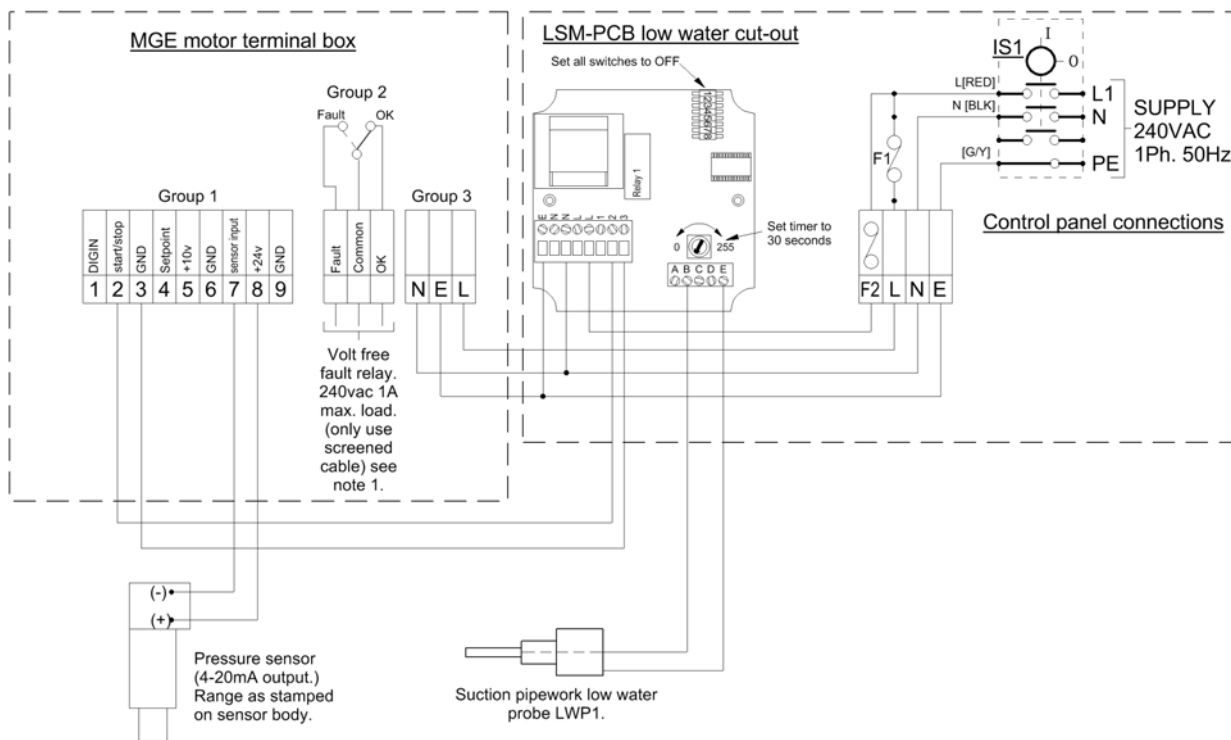

Fig. 1.3 Typical Electrical connections for single phase operation
- 1.3.6.3 Connect incoming electrical mains supply to identified terminals on isolator IS1 in panel (see fig. 1.3). Ensure voltages and frequency indicated on the motor nameplates and wiring diagrams correspond with supply mains data and that the supply fuse ratings are correct for the total current rating of the equipment.
- 1.3.6.4 Where optional remote fault signal is required connect terminals in Motor terminal box to remote panel. See fig 1.3 and wiring diagram provided.